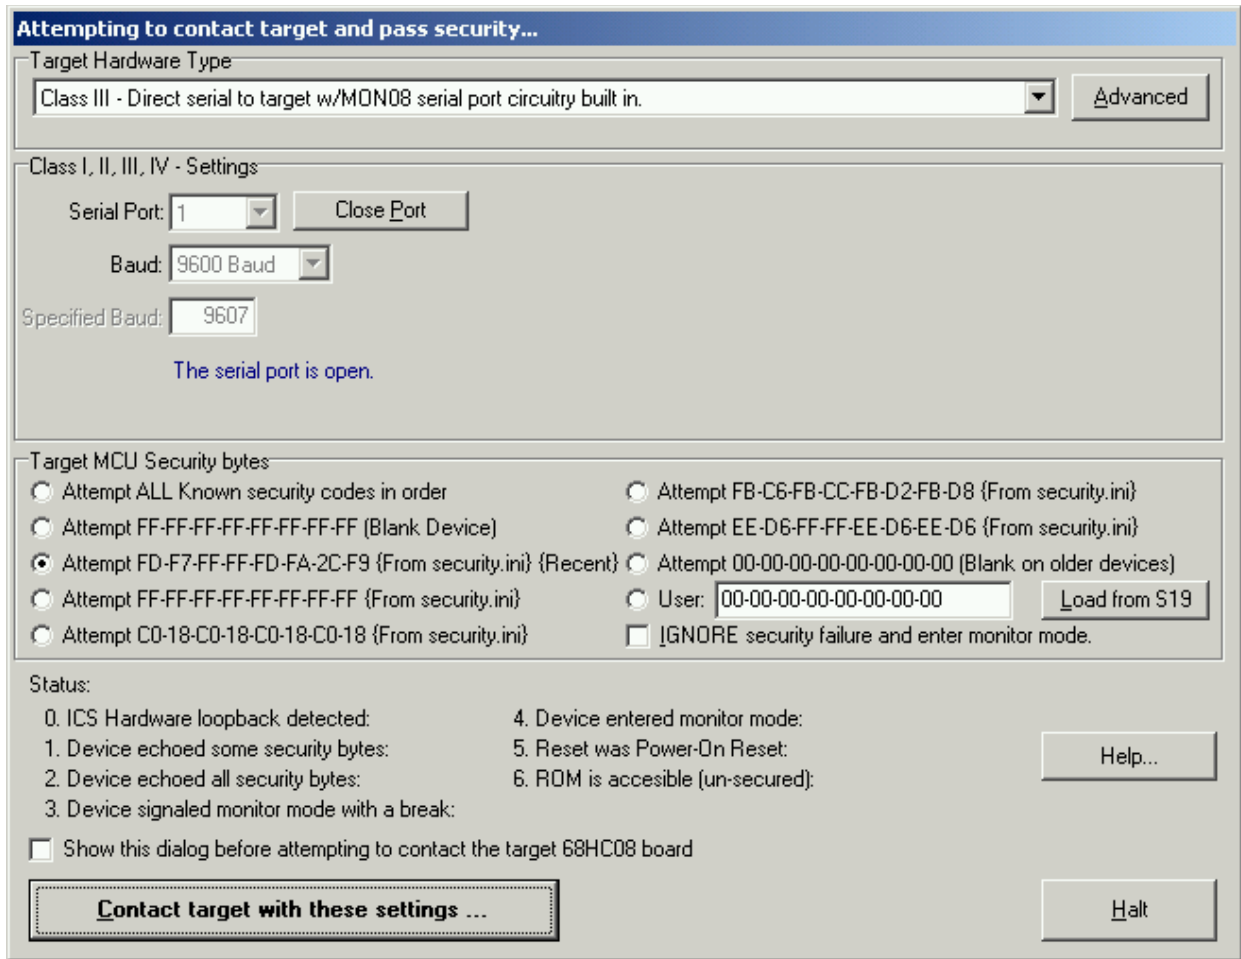

Figure 11. Select Port, Baud, and Security Bytes
Programming the FLASH on an M68HC908 is relatively easy with the PROG08SZ component. Simply open the WinIDE, then develop and assemble your code. When your MON08 interface is attached between the PC and target board, select the programmer icon (lightning bolt). The PROG08SZ programmer launches and configures the PC's COM port. Depending on the type of MON08 interface, a power cycle dialog box may appear to ask you to turn power off then on to your board. (The Cyclone and Multilink can perform this operation for you.) PROG08 then prompts you to choose a programming algorithm from a file window. Monitor mode communication is established automatically and the programmer window (**Figure 11**) appears.
7. Select the PC port and the appropriate baud rate (see Figure 11).
The PROG08SZ Attempting to contact target and pass security... window appears. (Refer to Figure 11)